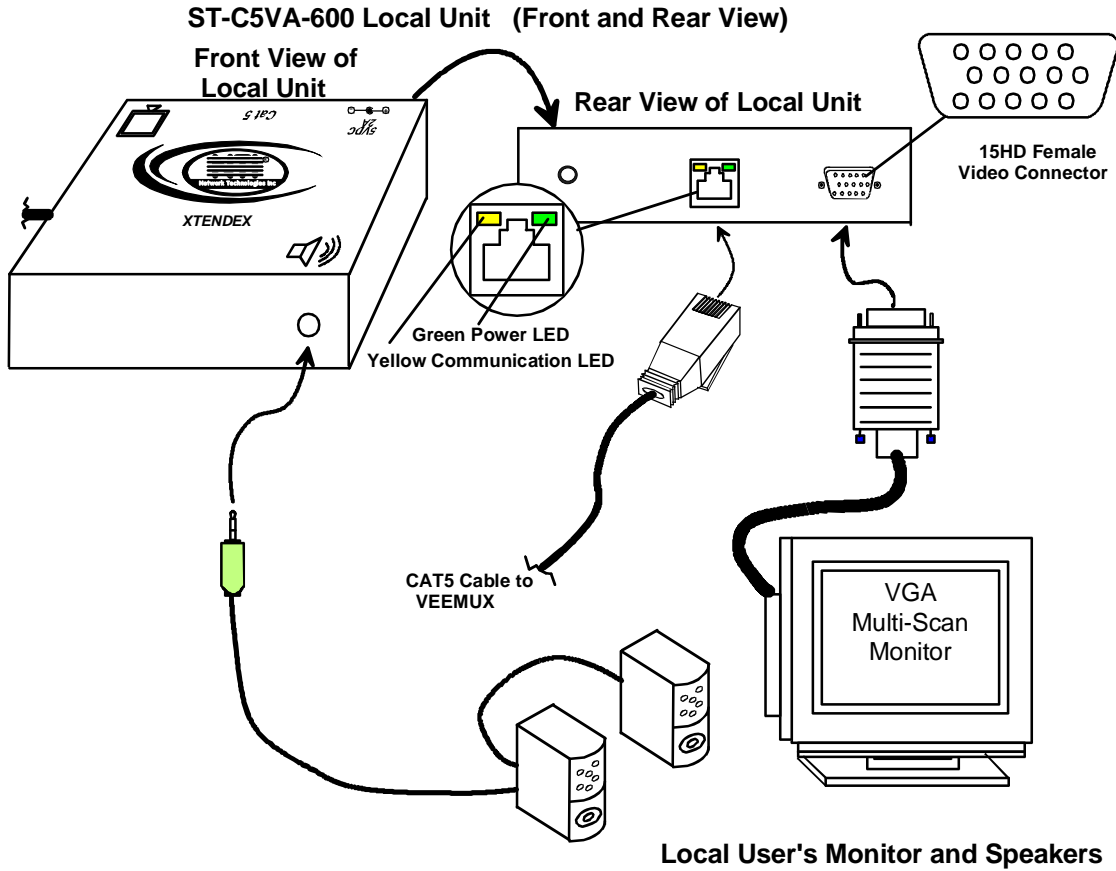

Figure 2- Connect Local User Components to Local Unit
2. Make connections for a Local User (see Fig. 2)
3. Connect the CAT5 cable to the "Cat 5" port on the Local Unit. (See Fig. 2.) When properly inserted the cable end should snap into place.